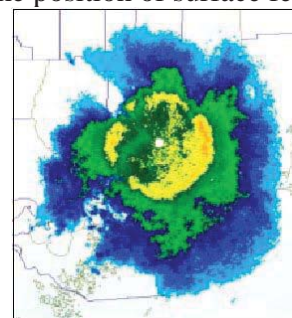

Figure 2-70. Bright Band Identification Using the WSR-88D.
c. Bright Band Identification. The Base Reflectivity (R) product will display the freezing level as a ring of enhanced reflectivity (30 to 45 dBZ) around the Radar Data Acquisition Unit (RDA). This enhanced area is called the bright band, formed when frozen precipitation melts as it falls through the freezing level (Figure 2-70). The height of the outer edge of the bright band is the height of the freezing level (0°C). You can measure the height (MSL) by placing the cursor on the area of interest and reading the elevation to the right of the reflectivity panel.